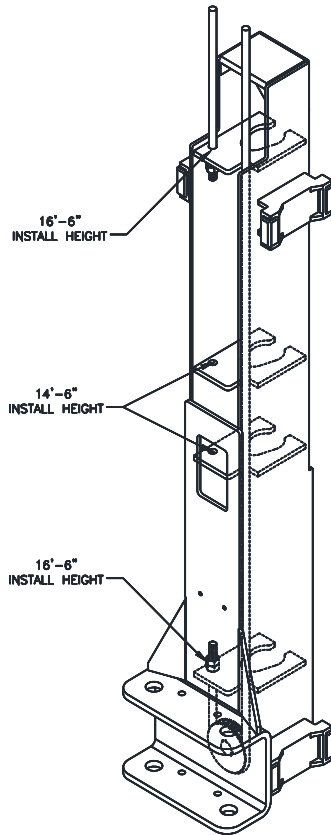

Fig. 6 – Synchronizing Cables
- 17) Attach one end of synchronizing cable to carriage. See Fig. 6 for proper attachment.